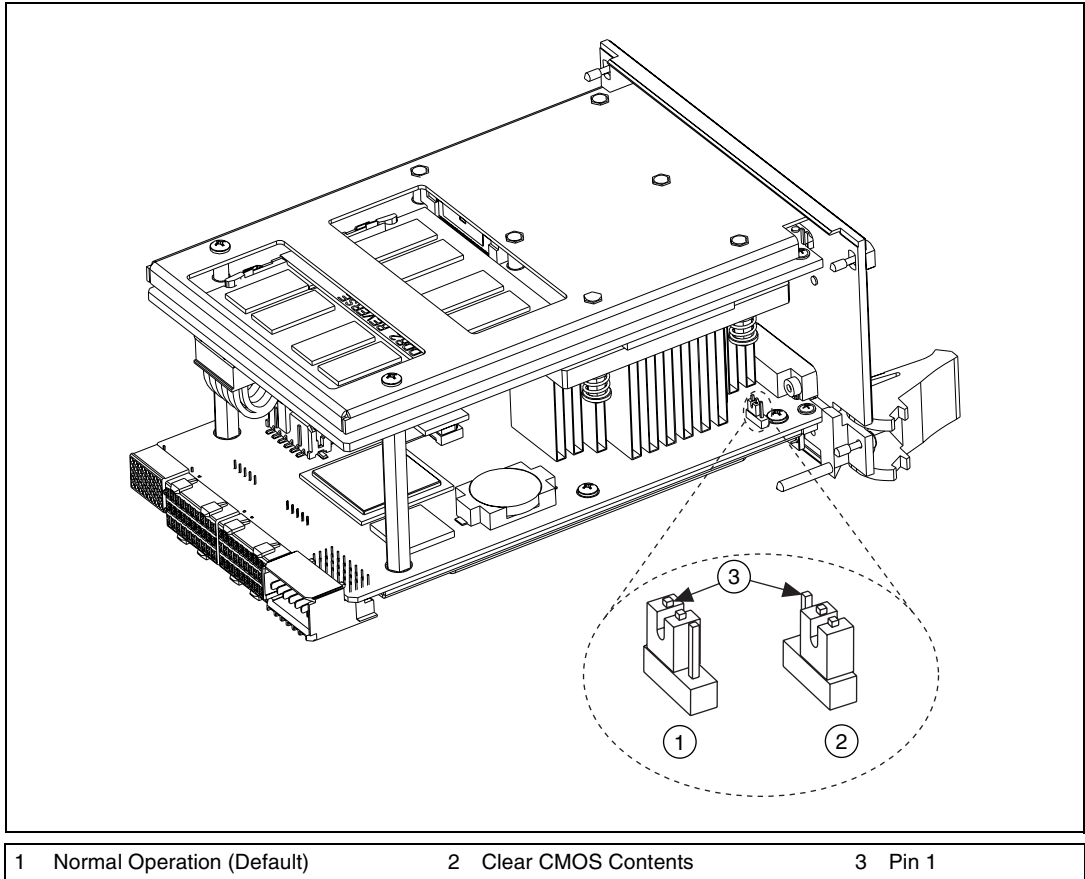

Figure 2-3. Clearing the CMOS Contents
3. Move the jumper on W5 from pins 1–2 to pins 2–3, as shown in Figure 2-3.